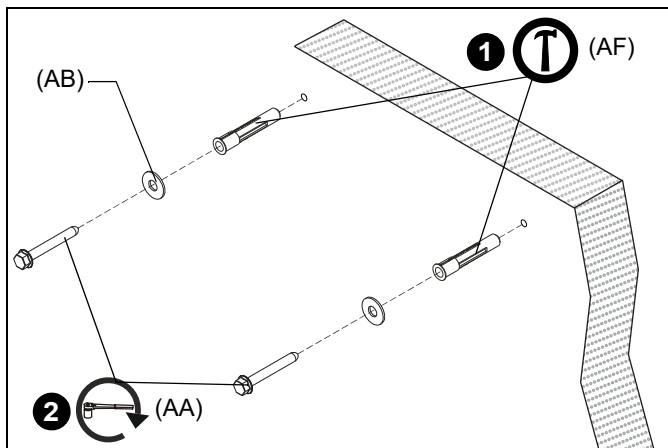

Figure 20
1. Install one UX10x60R anchor (AF) into each pilot hole using a hammer, making sure that the anchor is flush with the wall. (See Figure 20)
2. Use one 5/16" x 2-1/2" hex flange head lag bolt (AA) and one 5/16" washer (AB) through product into each anchor in wall. (See Figure 20)